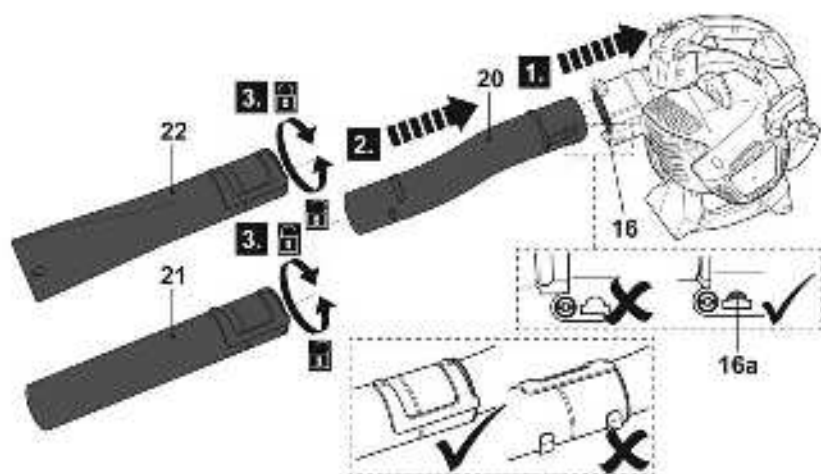

Fig. 1
- > Align the S-shape connector (20) with the outlet nozzle (16) and insert it all the way to the stop (Fig. 1, step 1). Ensure the S-shape connector snaps in position.
- > Align the pins with the slots and fit the nozzle (21, 22) onto the S-shape connector (20) (Fig. 1, step 2).
- > Turn the nozzle (21, 22) clockwise to secure the connection (Fig. 1, step 3).
- > Before changing configuration, cleaning, maintenance, transportation or storage, use a proper tool (e. g. the multi tool (27)) to tilt up the interlock device (16a) as far as possible; at the same time pull the S-shape connector (20) out from the outlet nozzle (16).